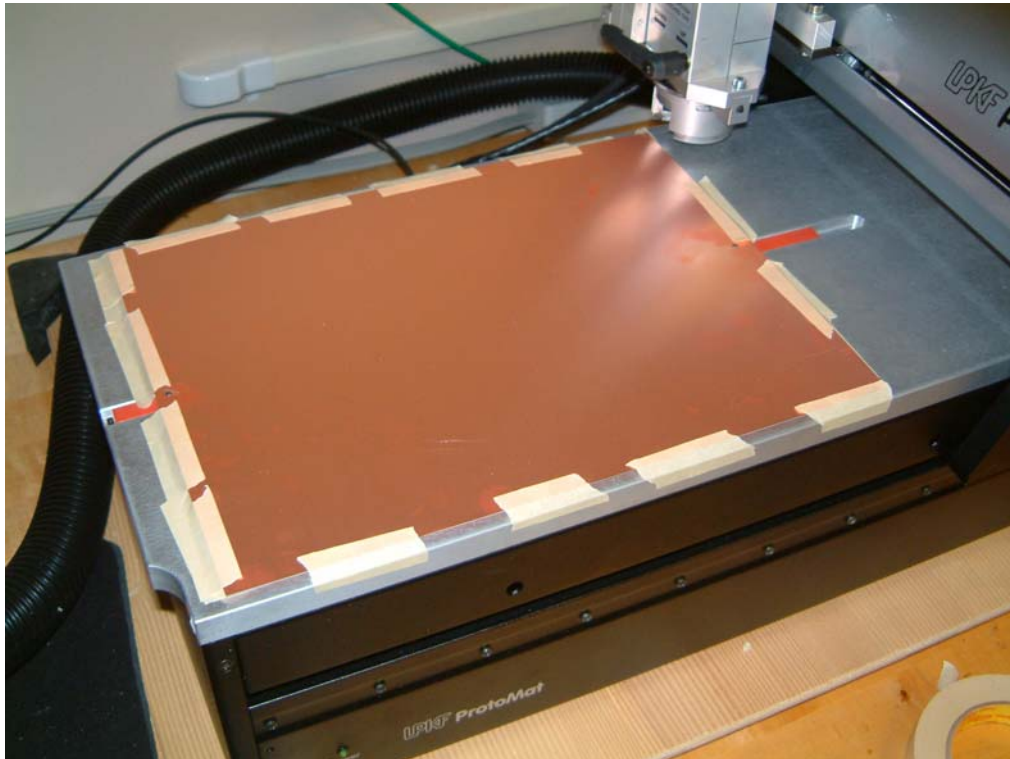

Figure 35: Once the marking holes have been drilled, the board should be placed on the alignment posts and securely taped.
8. Drill hole the second hole using sequence of buttons: *motor head on > drop head > raise motor head > motor head off*. Remove the tape and place the board on top of the alignment posts and Re-tape the board securely in place as shown in Figure 35.
1. Before proceeding, the drill head should already be in the *exchange* position and the board securely taped on the alignment posts, as shown in Figure 35.